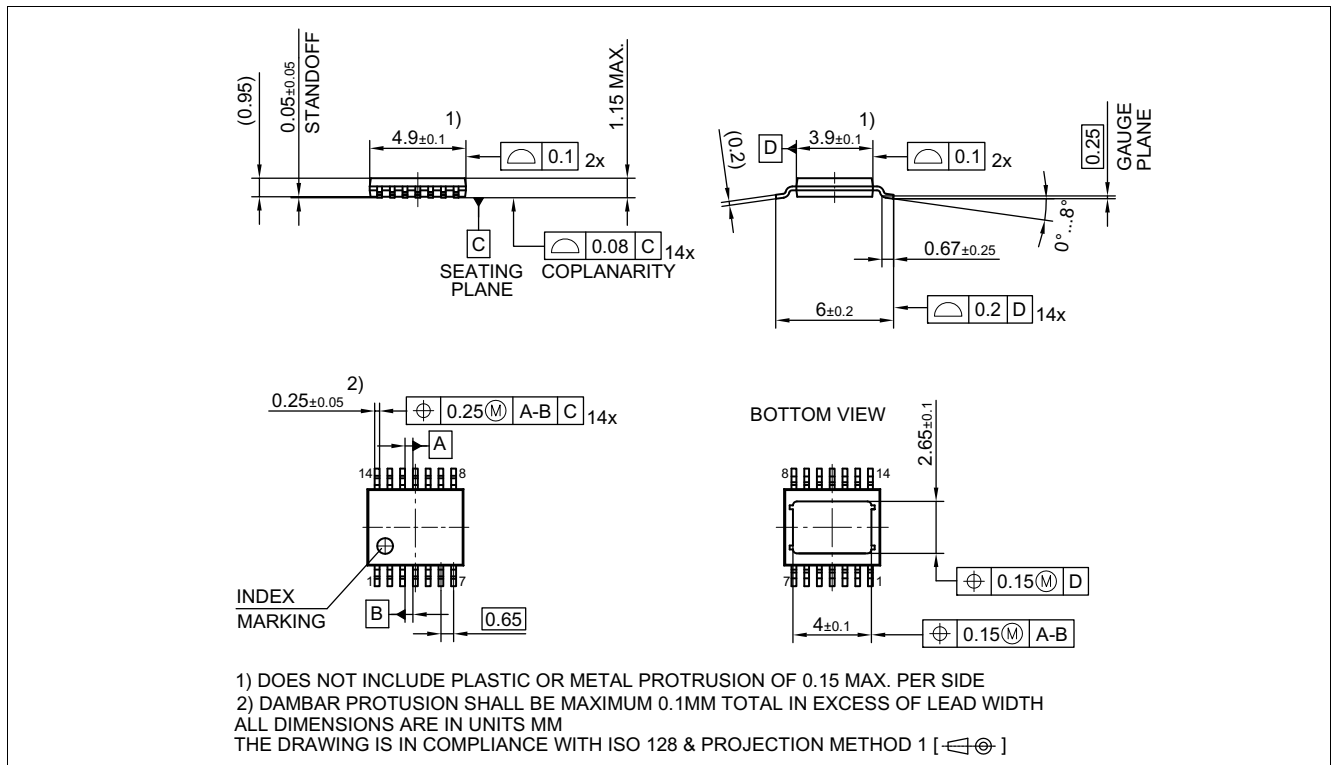
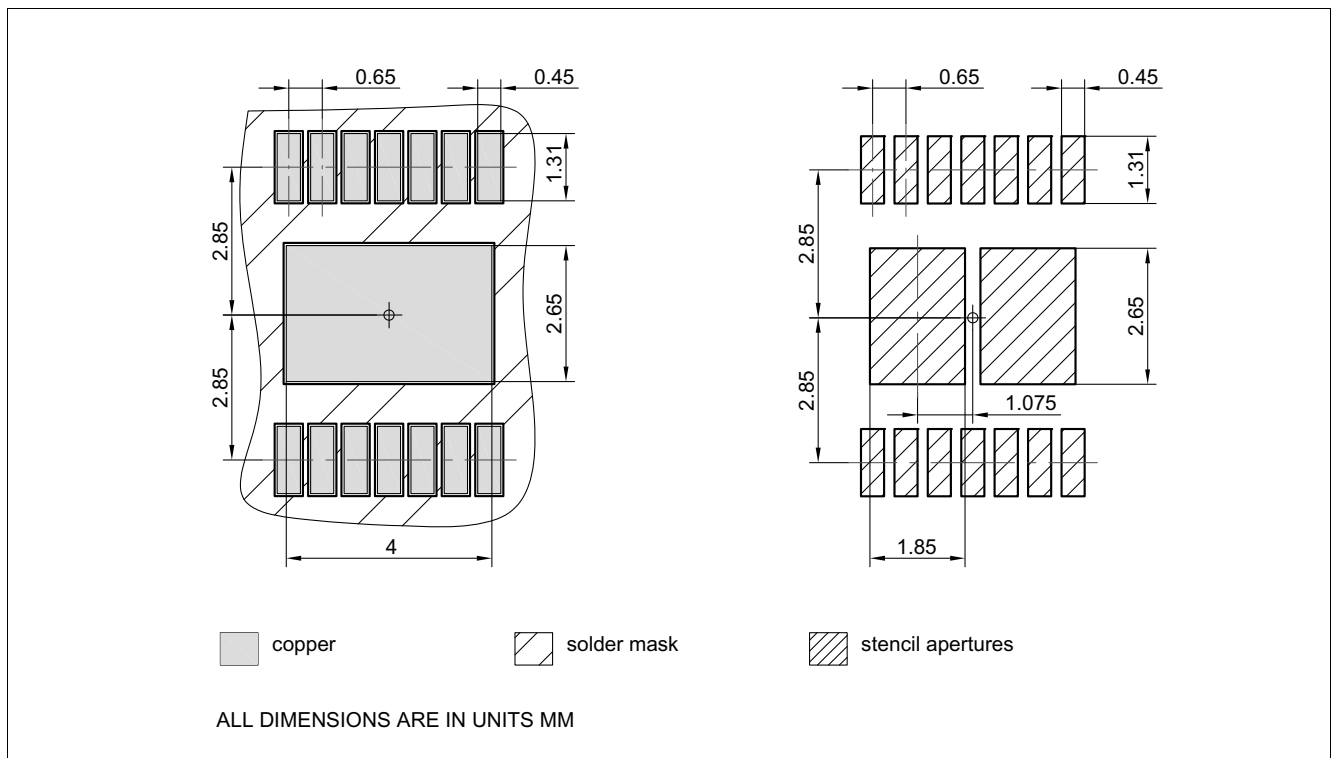

Figure 38 PG-TSDSO-14 (Thin (Slim) Dual Small Outline 14 pins) Package Outline
Figure 39 PG-TSDSO-14 (Thin (Slim) Dual Small Outline 14 pins) Package pads and stencil
1.02, 2019-02-05	<p>Figure 9, Figure 10 updated</p> <p>Page 1: updated (figure product)</p> <p>Table 22 updated (punctuation)</p> <p>Chapter 9.3, Chapter 9.3.1 updated (typo)</p> <p>Page 1: updated (Package PG-TSDSO-14-22 → Package PG-TSDSO-14)</p> <p>Figure 38 updated (PG-TSDSO-14-22 (Thin (Slim) Dual Small Outline 14 pins) Package Outline → PG-TSDSO-14 (Thin (Slim) Dual Small Outline 14 pins) Package Outline)</p> <p>Figure 39 updated (PG-TSDSO-14-22 (Thin (Slim) Dual Small Outline 14 pins) Package pads and stencil → PG-TSDSO-14 (Thin (Slim) Dual Small Outline 14 pins) Package pads and stencil)</p> <p>Table 1 updated (Parameter: Minimum Overvoltage protection ($T_J = 25\text{ °C}$) → Minimum Overvoltage protection ($T_J \geq 25\text{ °C}$))</p> <p>Table 1 updated (corrected typo in table Product Summary: $I_{VS(OFF)}$: 1 → 0.9 μA)</p> <p>Table 1 updated (Symbol: $I_{VS(OFF)} \rightarrow I_{VS(OFF)_85}$)</p> <p>P_6.5.20.1 updated (Symbol: $I_{VS(OFF)} \rightarrow I_{VS(OFF)_85}$)</p> <p>P_6.5.20.2 updated (Symbol: $I_{VS(OFF)} \rightarrow I_{VS(OFF)_150}$)</p> <p>P_9.7.10.27, P_9.7.10.29 updated (Note or Test Condition: formatted physical symbols as subscript)</p>